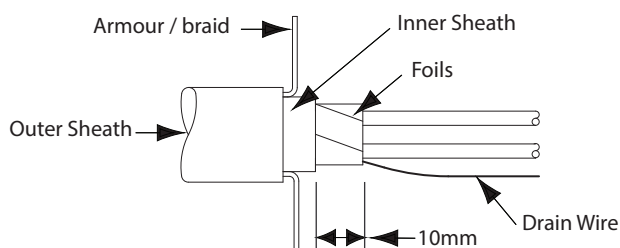

Fig. 4
- 3.3 Cut back a further 10mm of inner sheath (Fig. 4).